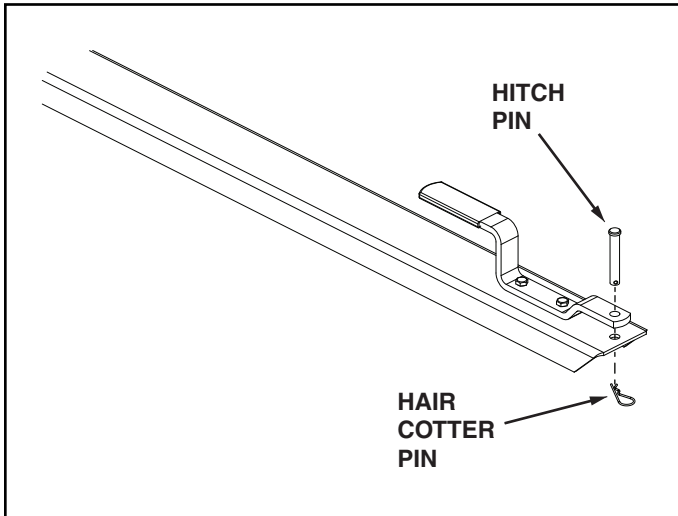

FIGURE 4
7. Secure the hitch pin to the hitch bracket and tongue with the hair cotter pin. See figure 4.